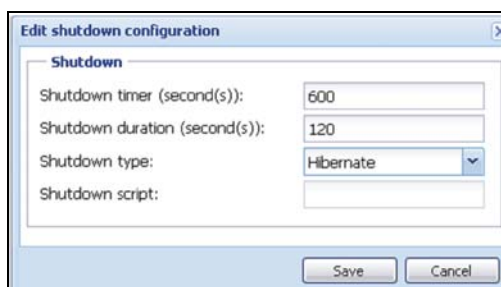

Figure 180. Edit Shutdown Configuration Dialog Box
- The IPM default configuration is available from **Settings > Shutdown > Edit Shutdown Configuration** (see Figure 180).